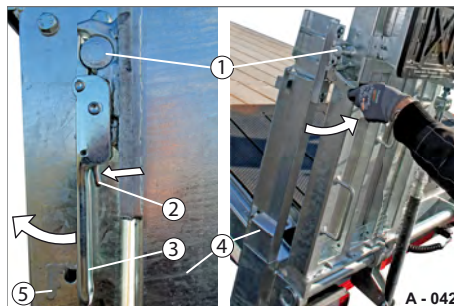

Fig. 61 Unlocking the securing latch
- ▶ Press in the latch retainer (Fig. 61/2) and
- ▶ Pull on the latch bar (Fig. 61/3). The gudgeon (Fig. 61/1) of the ramp (Fig. 61/5) is released.
- ▶ Press the latch lever (Fig. 61/3) towards the corner post (Fig. 61/4). The latch retainer (Fig. 61/2) snaps in. The securing latch is locked.